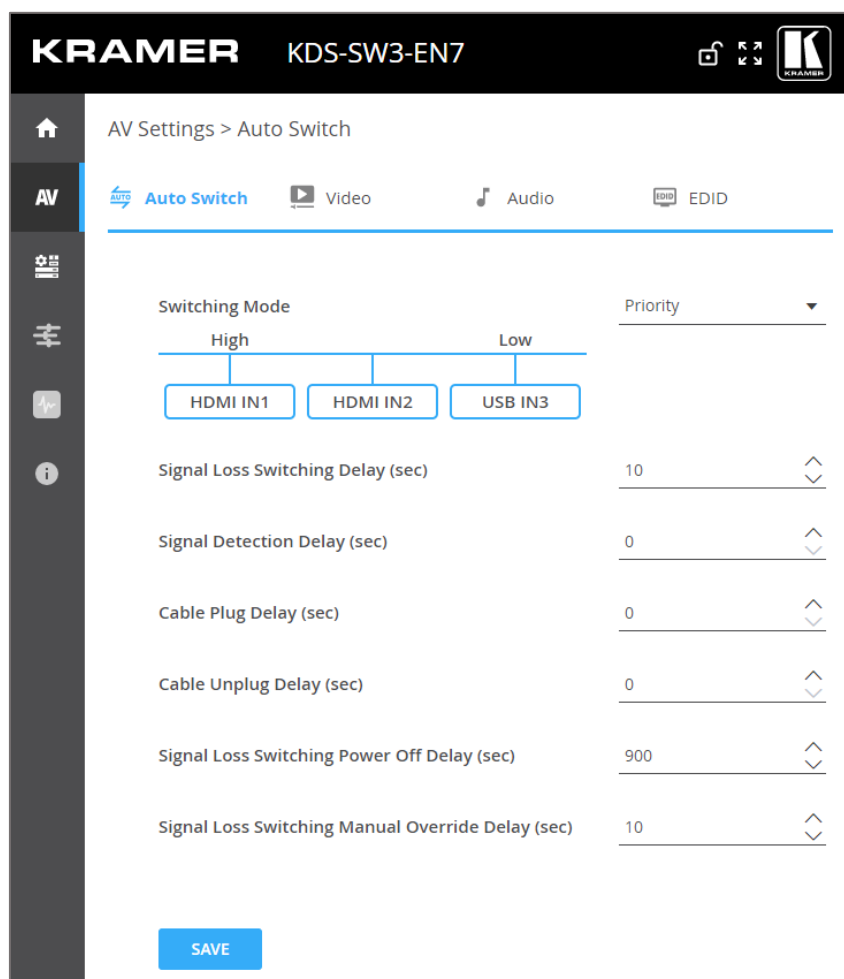

Figure 13: AV Settings Page – Auto Switch Tab
- In the Navigation pane, Select **AV**. The Auto Switch tab in the AV Settings page appears (see Figure 13).
1. In the Navigation pane, Select **AV**. The Auto Switch tab in the AV Routing page appears (see Figure 13).